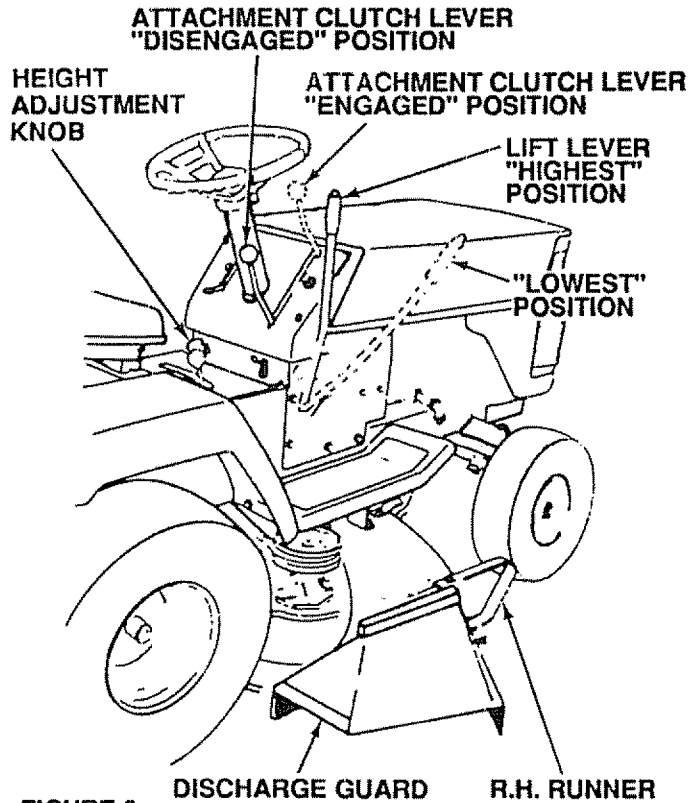

FIGURE 8
- f. Move throttle lever to half throttle and slowly move attachment clutch lever to engaged position, Fig. 8.
- b. Use the Runner on the R.H. side as a guide; the Blade cuts approximately an inch (2.54 cm) outside the Runner (Fig. 8).